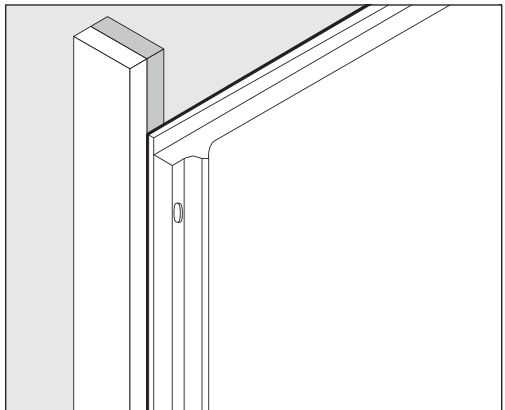

FIGURE 3. Stud must contact entire length of back panel.
- The stud on each side of the back panel should contact the entire length of the back panel. **(Fig. 3)**